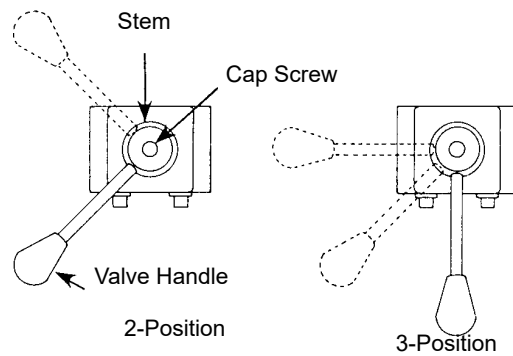

Figure 3
2. 3-Position, 3-Way Manual Valve Used With Single-acting Cylinders (Figure 3)
3. 3-Position, 4-Way Manual Valve used with Double-acting Cylinders (Figure 3)